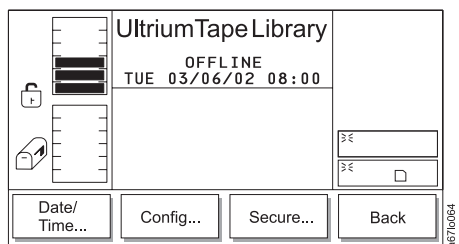

Figure 4-119. Utils Submenu
2. Press the button below the **Utils** softkey. The Utils Dialog displays (see Figure 4-119).